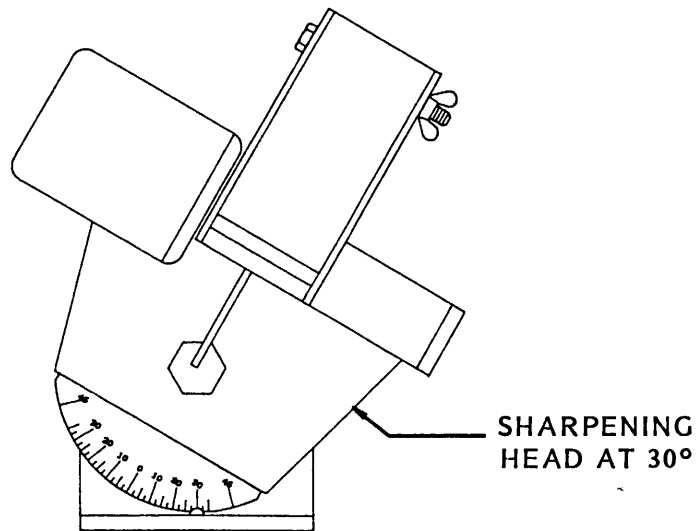

FIGURE 10
11. Set TOP PLATE CUTTING ANGLE by setting the scale on the back of the throat to desired angle. (See **Figure 10.**) (Again we will use 30° for an example.) Follow manufacturer's specifications for recommended angles. This represents degrees this angle tilts past 90° .